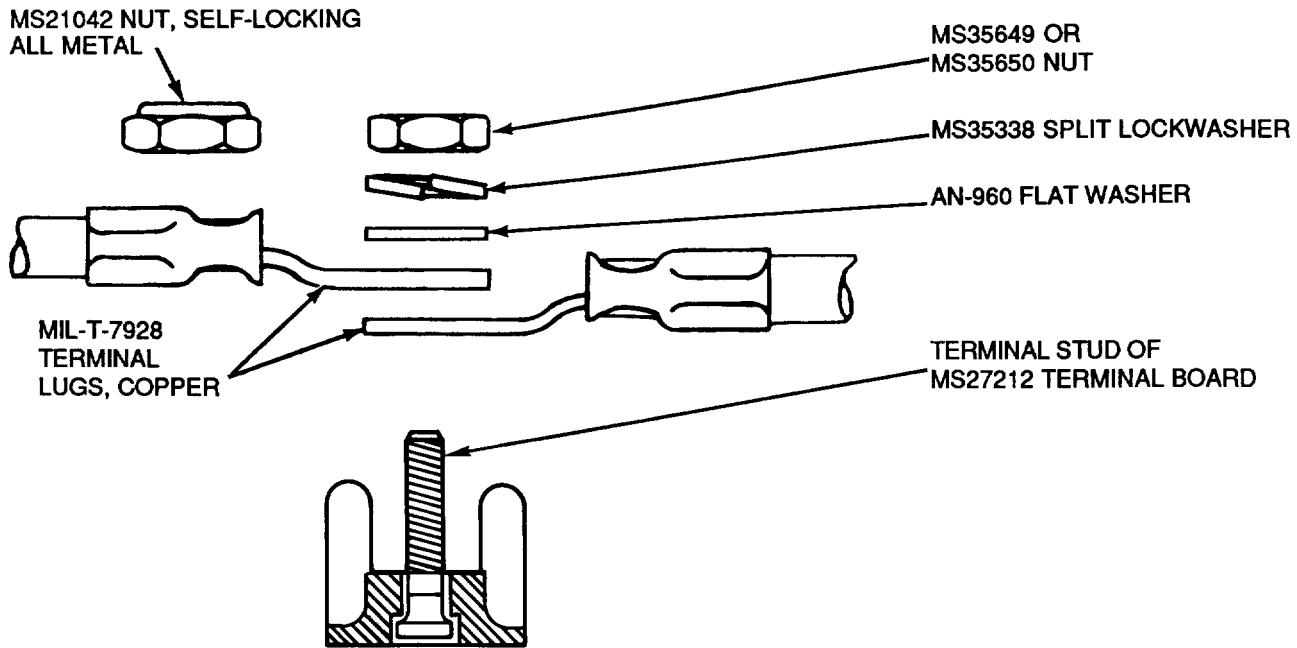

Figure 14. Hardware for Wiring Terminal Boards with Copper Terminals
38. ATTACHING COPPER TERMINALS. To attach copper terminals to terminal boards proceed as follows (Figure 14):